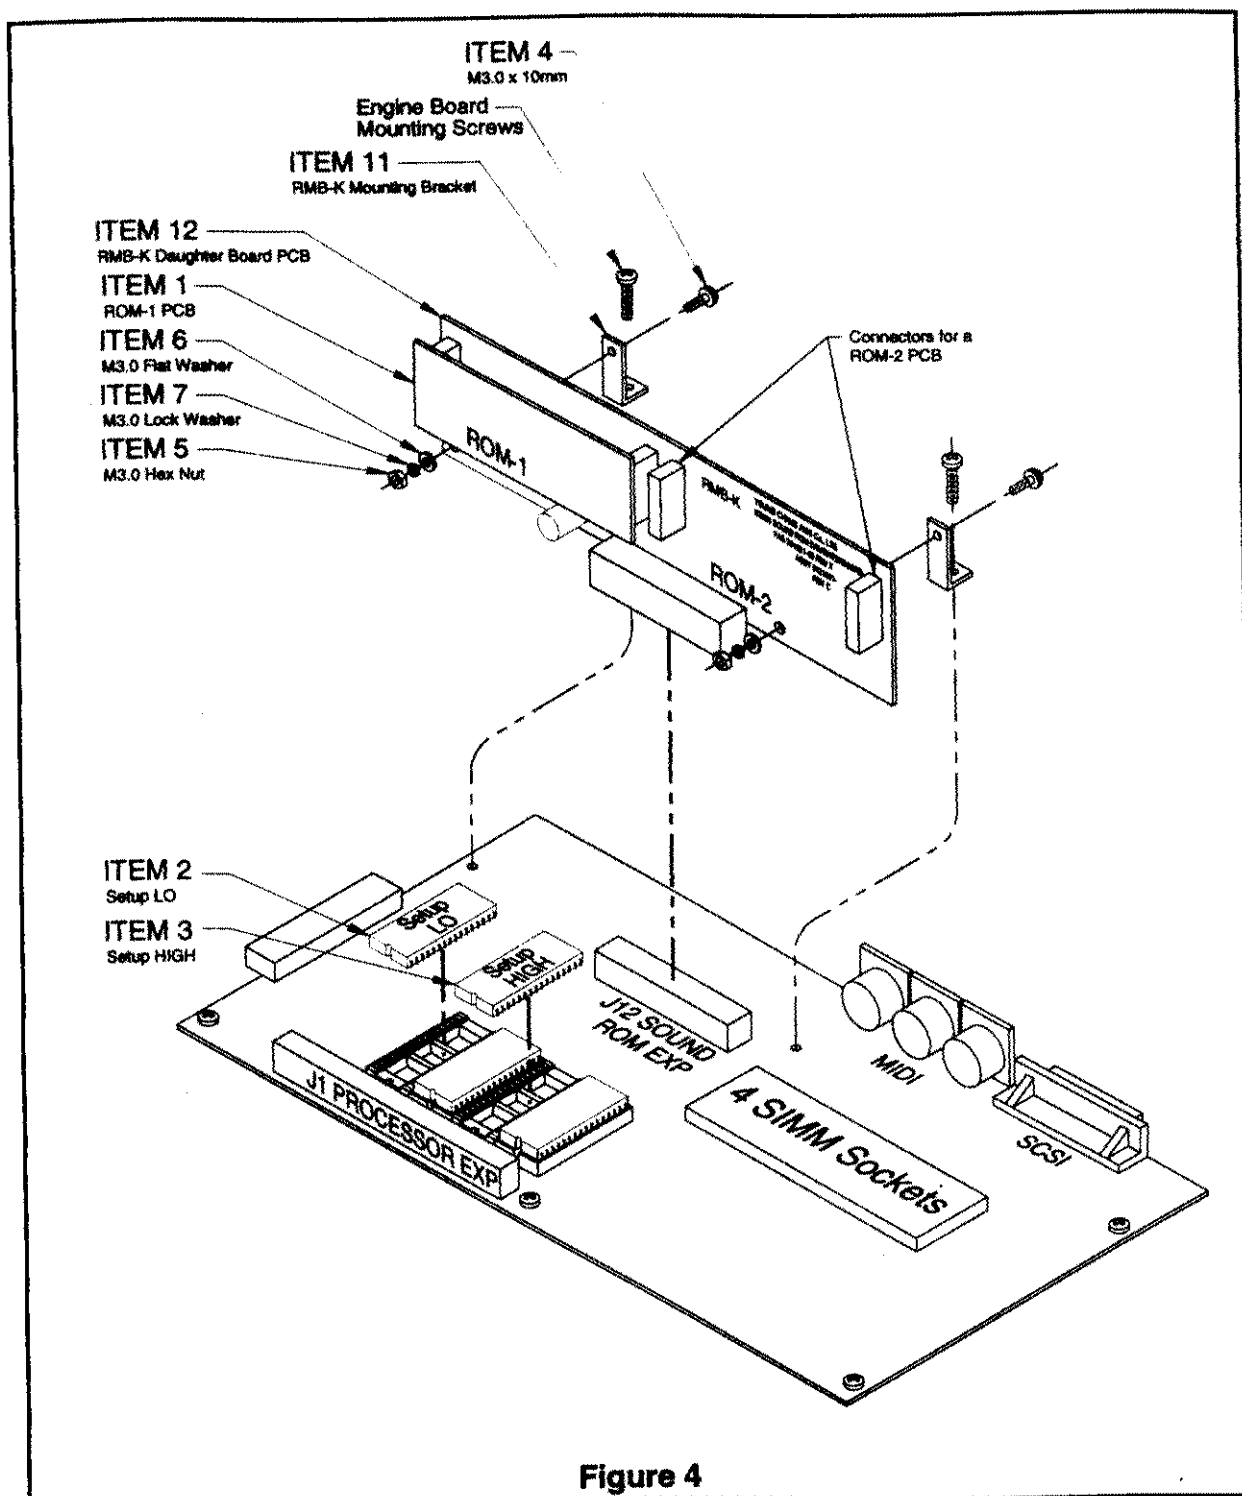

Figure 4
9. See Figure 4. Put Item 4, the (2) M3 x 10mm Screws through the two holes in Item 11, the mounting brackets, and RMB-K Daughter Board as shown. Secure the RMB-K Daughter Board to the brackets with Item 6, the M3 Flat Washers, Item 7, the M3 Lock Washers, and Item 5, the M3 Hex Nuts.
10. See Figure 4. Push the RMB-K Sound ROM Daughter Board, with the ROM board installed, onto J12, the "SOUND ROM EXP" connector. The side of the RMB-K Daughter Board with the ROM board on it should be facing connector J1, the 64 pin connector labeled "PROCESSOR EXP".
11. See Figure 4. Using Item 10, the (2) M3.0 x 14mm Self-Tapping Screws, secure the Item 11, the (2) RMB-K Mounting Brackets, to the Engine Board.
12. See Figure 4. Put Item 4, the (2) M3 x 10mm Screws through the two holes in Item 11, the mounting brackets, and RMB-K Daughter Board as shown. Secure the RMB-K Daughter Board to the brackets with Item 6, the M3 Flat Washers, Item 7, the M3 Lock Washers, and Item 5, the M3 Hex Nuts.
13. See Figure 4. Push the RMB-K Sound ROM Daughter Board, with the ROM board installed, onto J12, the "SOUND ROM EXP" connector. The side of the RMB-K Daughter Board with the ROM board on it should be facing connector J1, the 64 pin connector labeled "PROCESSOR EXP.". Replace the two Engine PCB mounting screws through the RMB-K Daughter Board mounting brackets.
14. See Figure 4. Using the Engine Board mounting screws you removed to secure Item 11, the (2) RMB-K Mounting Brackets, to the Engine Board.